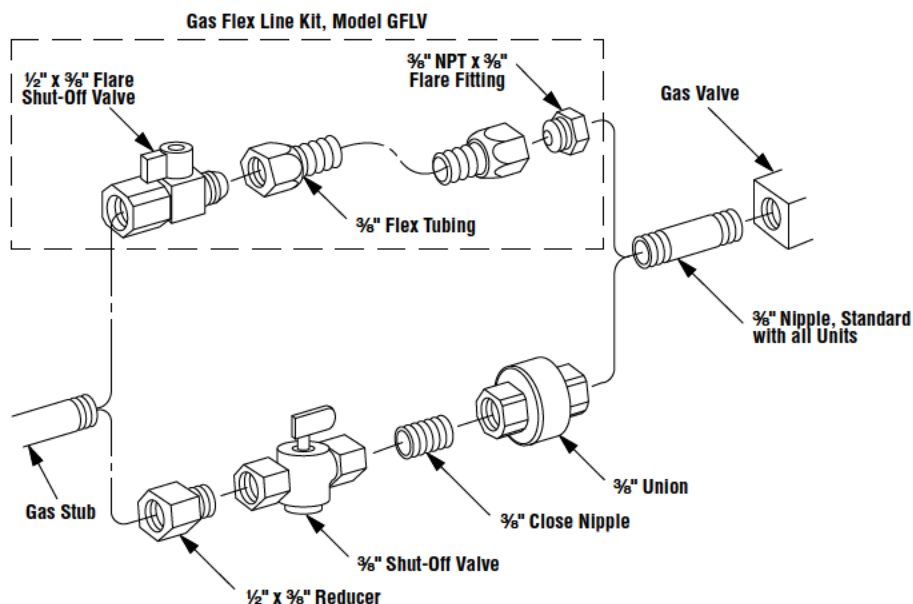

Figure 12
Step 5. Connecting Gas Line – Make gas line connections. All codes require a shut-off valve mounted in the supply line. Figure 12 illustrates two methods for connecting the gas supply. Installation methods and materials must be in compliance with local codes.